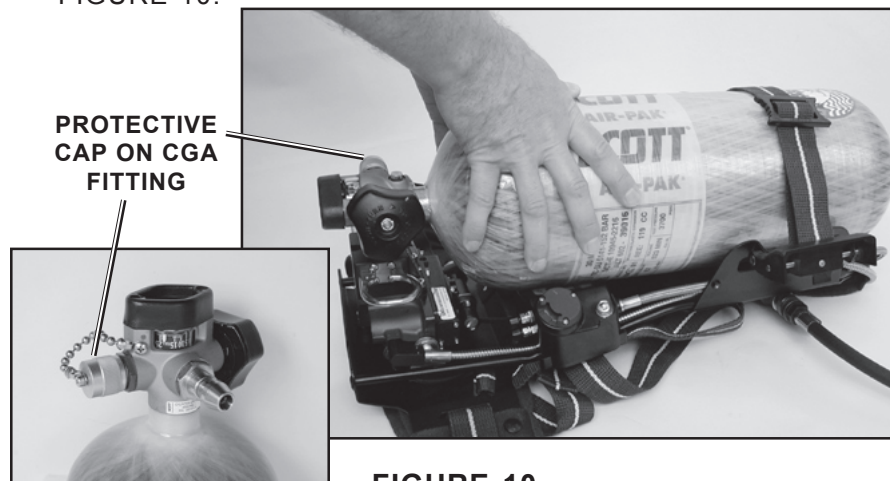

FIGURE 10
8. Replace with a fully charged cylinder and valve assembly of the appropriate pressure rating. Verify that replacement cylinder has protective cap installed on the CGA fitting on the valve. See FIGURE 10.
10. Engage the cylinder SNAP-CHANGE by pushing the cylinder connector into the pressure reducer firmly until both SNAP-CHANGE locks click and lock. See FIGURE 10. The unit will sound a series of ascending tones and flash the backframe lights to indicate the cylinder has been properly engaged.
7. The assistant will install a fully charged cylinder and valve assembly of the appropriate pressure rating and verify that replacement cylinder has protective cap installed on the CGA fitting on the valve. See FIGURE 10.
9. The assistant will engage the cylinder SNAP-CHANGE by pushing the connector into the pressure reducer firmly until both SNAP-CHANGE locks click and lock. See FIGURE 10. The unit will sound a series of ascending tones and flash the backframe lights to indicate the cylinder has been properly engaged.